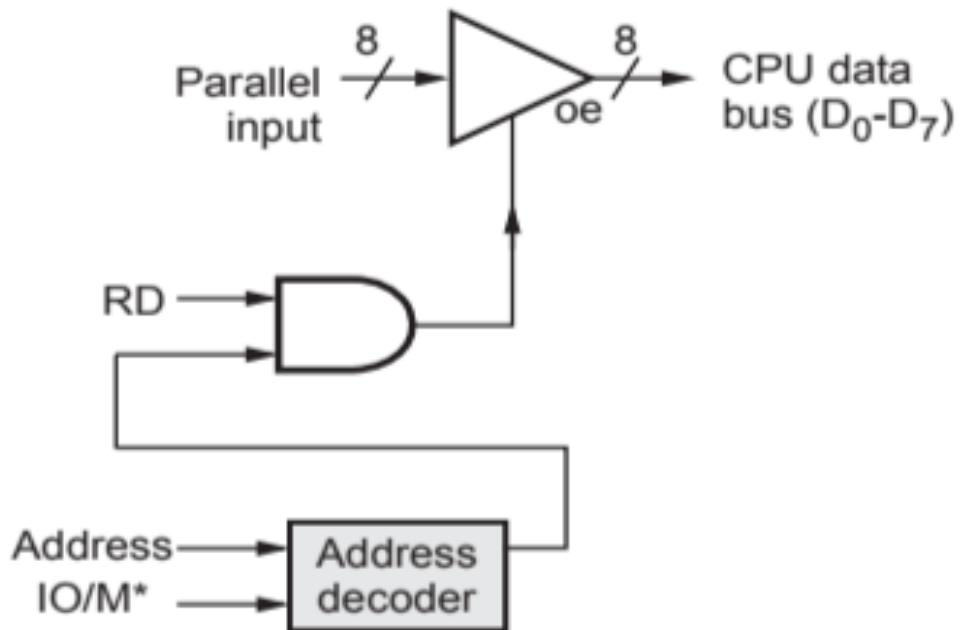

Fig. 5.12.8 Parallel input port
- The read strobe (RD) is used to enable the buffer so that it connects the input to the CPU data bus. Fig. 5.12.8 shows parallel input port.